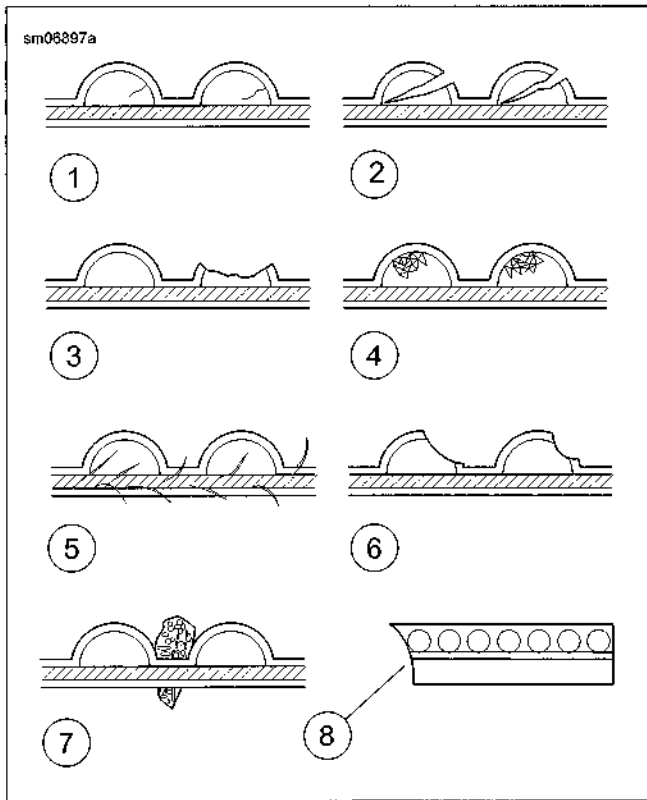

Figure 1-23. Drive Belt Wear Patterns
See Figure 1-23. Inspect drive belt for:
* See Figure 1-23.